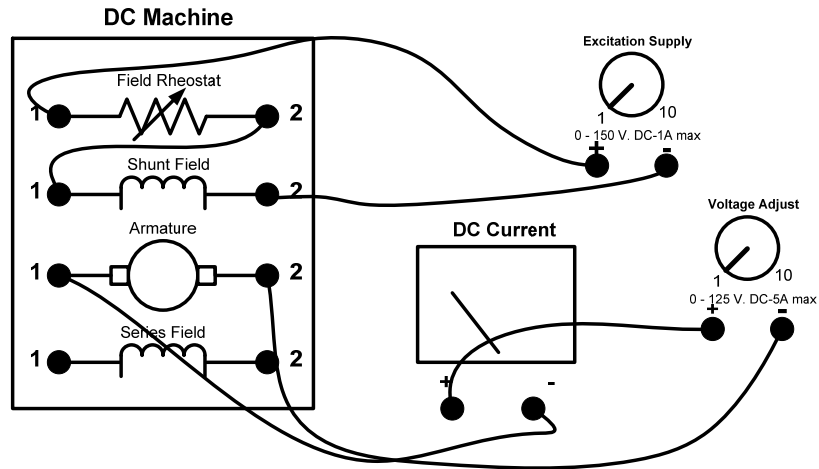

Figure 5.
- Reverse the polarity on the armature by swapping the yellow wires that are connected to armature. See Figure 5.